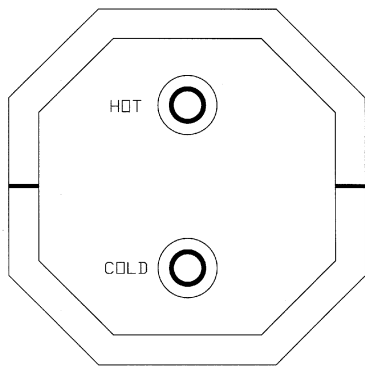

Figure 3
A. Water connections are made at the rear of the water heater. Refer to Figure 3. Connect the hot and cold water lines to the 1/2" female pipe fitting provided on rear of tank. These fittings are marked "HOT" and "COLD". **NOTE:** Inside each fitting is a plastic fill tube. Its purpose is to enhance water circulation. **DO NOT REMOVE PLASTIC FILL TUBE.**